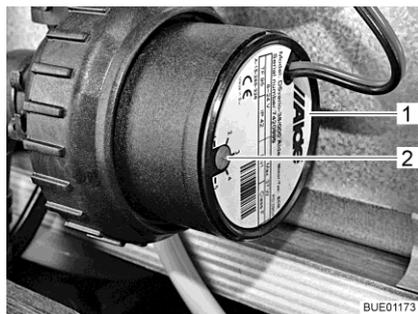

Fig. 218 Speed reduction
The rotational speed of the circulating pump can be set with the control knob (Fig. 218,2). At a lower rotary speed, the operating sounds of the pump are quieter.
The control knob is located on the circulating pump (Fig. 218,1).
- Turn the control knob (Fig. 218,2) in an anticlockwise direction. The output is reduced.